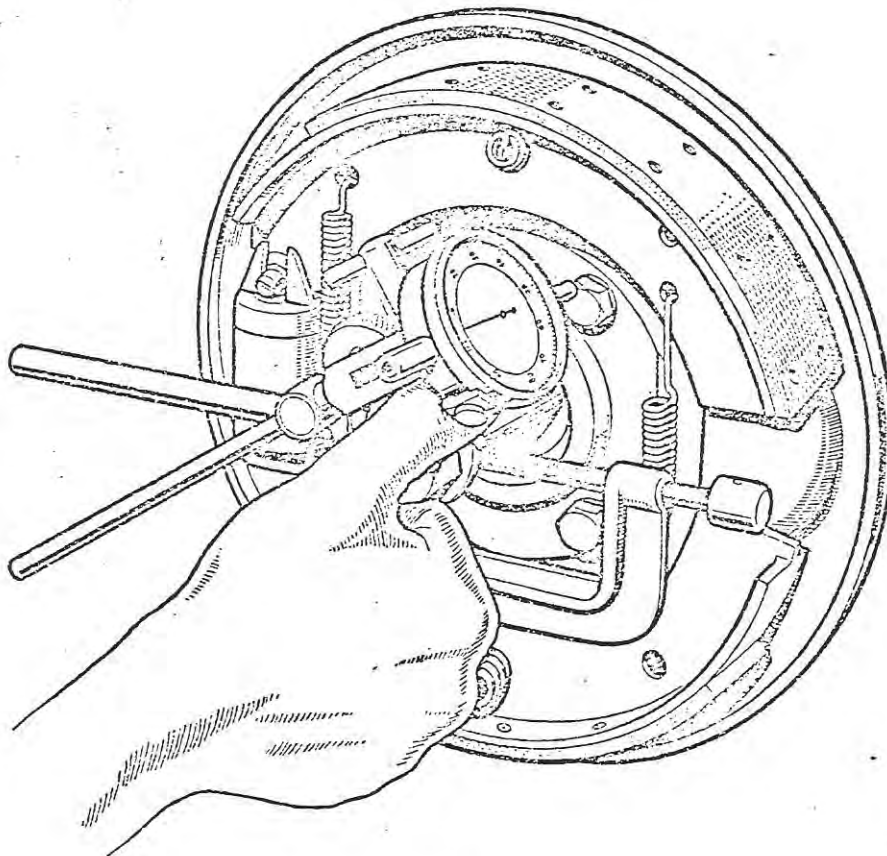

FIGURE 2
- (1) Remove the road wheel, brake drum and hub. The hub should be withdrawn with a suitable extractor (for information about this extractor refer to the vehicle manufacturer, not Salisbury Transmission Ltd.), after removing the axle shaft nut, washer and split pin.
- (2) Check the end-float of the axle shaft with the dial indicator assembly, SE.101 in the Service Tool List, as shown in Figure 2. The correct tolerance for axle shaft end-float is shown on Page 25, Table 6.
- (3) Remove the brake back plate retaining bolts, the outer oil seal assembly, the hub bearing retainer plate (if fitted), and the brake back plate, taking care not to lose or damage any of the hub bearing adjusting shims which control the shaft end-float.
- (4) Remove the axle shaft with its taper roller bearing, using Tool No. SL.13A (SE.102) in the Service Tool List.
- (5) Examine the shaft oil seal which is pressed inside the axle tube, and if necessary withdraw same and replace with a new seal.
- (6) Examine the hub bearing, and if replacement is necessary, the cone may be withdrawn from the shaft by means of the extractor Tool No. SL.14 with suitable adaptor.
- (7) Fit the replacement bearing (if required) making sure that the cone is pressed squarely on the bearing diameter until it firmly abuts against the shoulder provided. If the bearing is not pressed home it will creep in service, resulting in excessive shaft end-float, which will damage the surfaces due to hammering.
- (1) Wash the hub bearing so that the axle shaft end-float may be determined accurately.
- (2) Install the shaft with the taper roller bearing cone, taking care not to damage the shaft oil seal.
- (3) Assemble the bearing cup whilst making absolutely sure that the cup enters the housing squarely.
- (4) Add or subtract adjusting shims (available in thicknesses of .003", .005", .010" and .030") until the correct axle shaft end-float as stated in Table 6 on Page 25 is obtained. This should be just perceptible by hand. Adding shims increases end-float, subtracting shims decreases end-float. Remove or install approximately an equal thickness of shims at each end of the axle, in order to retain the shaft spacer in a central position.
- (5) Examine the hub oil seal assembly and relace if necessary.
- (6) Fit the brake back plate and centralise the hub oil seal assembly. When re-installing, fit new paper gaskets on either side of the hub bearing retaining plate, or, if a retaining plate is not fitted, between the brake back plate and the hub oil seal assembly, to prevent grease leaking into the brake drum.
- (7) Check the axle shaft end-float as in Figure 2 with a dial indicator assembly, after gently tapping with a rawhide mallet on each axle shaft to ensure that the bearing cups are butting against the brake back plates or retaining plates, according to the design of the particular unit.
- (8) FINALLY, IT IS ESSENTIAL TO GREASE HUB BEARINGS, as already described.